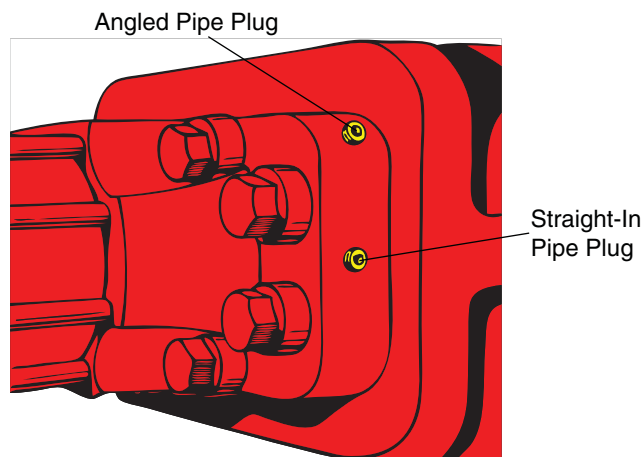

Figure 4-11. Removing the Pipe Plug
1. Remove the pipe plug from the front of the door (see Figure 4-11).